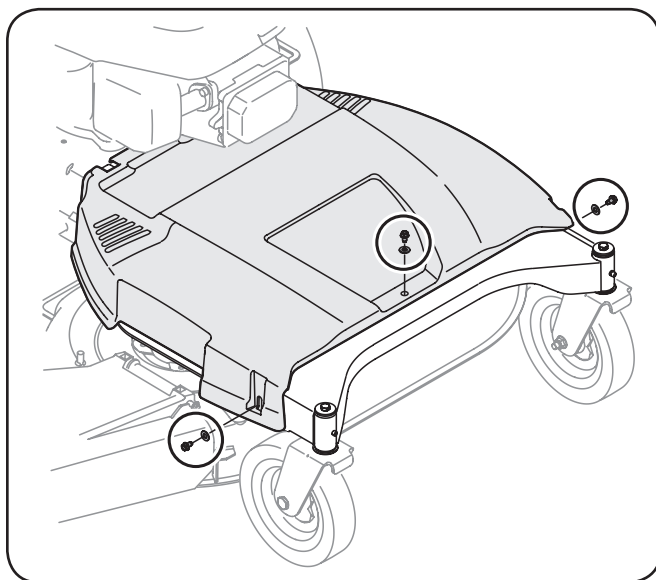

Figure 7-1
1. Remove the belt cover by removing the three screws and washers which secure it to the frame. See Figure 7-1.
2. Remove the belt cover as instructed earlier in this section. See Figure 7-1.